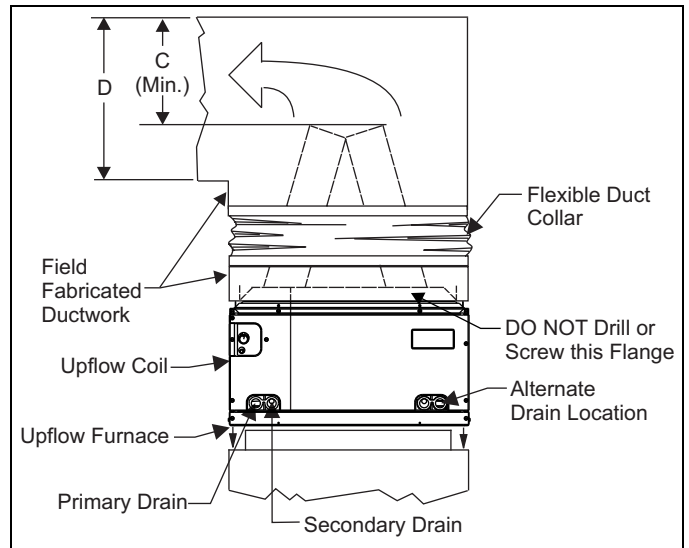

FIGURE 9: Upflow - PC Coil Installation with Furnace
2. Position the coil casing over the furnace opening as shown in Figure 9.
Dimension "C" should be at least 2/3 of dimension "D". See Figure 9.